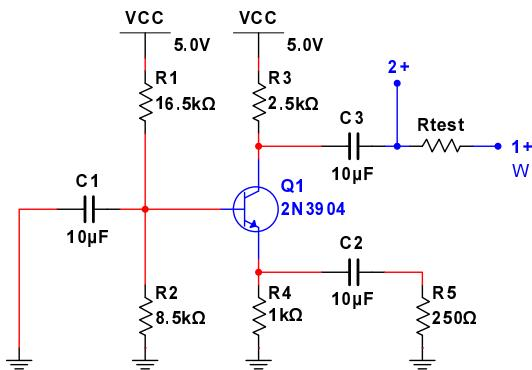

Figure 18: Amplifier setup for output resistance measurement
- Insert a test resistor (R_{test}) that is close to the calculated value of the output resistance R_o as in Fig. 18
- Connect **W1**, **1+** and **2+** as shown in Fig. 18, **1-, 2-, ↓** to **ground**